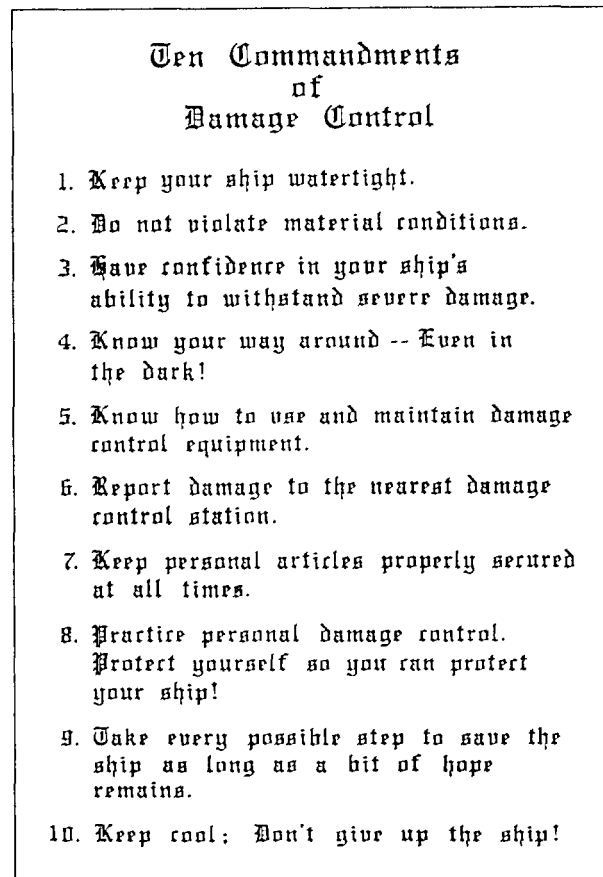

Figure 7-1.-The ten commandments of damage control.
- Following the ten commandments of damage control (See fig. 7-1.)